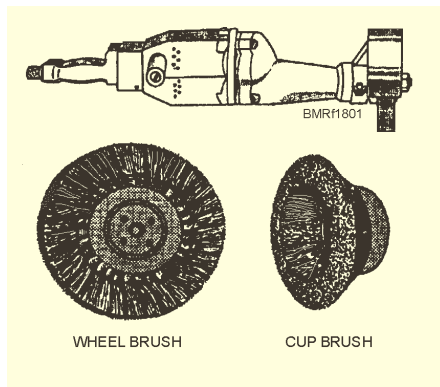

Figure 18-1.—Portable grinder and wire brush.
**PORTABLE POWER TOOLS.**—The most useful power tool is the portable grinder (fig. 18-1). Portable grinders are usually equipped with a grinding wheel that may be replaced by either the rotary wheel wire brush or the rotary cup wire brush. Light-duty brushes are made of crimped wire. Use them to remove light rust. Heavy-duty brushes are made by the twisting of several wires into tufts. Use them to remove deeply imbedded rust.